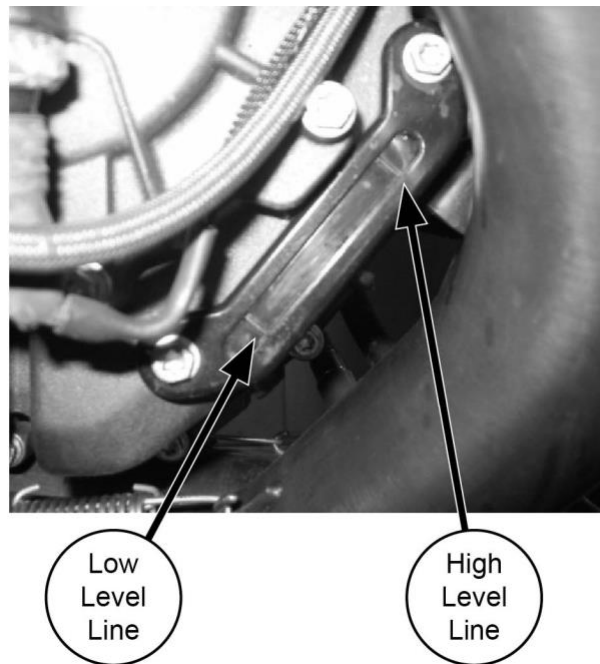

Figure 41. Oil sight gauge (SX) or with fairing removed (Hammerhead)
1. With motorcycle on the side stand look at the oil level in the sight gauge. An indicated oil level between the lower and upper lines on the oil level sight gauge is acceptable for safe engine operation. See Figures 41 and 54. On the Hammerhead the sight gauge is just visible through the right side fairing cooling slot below the front exhaust pipe.